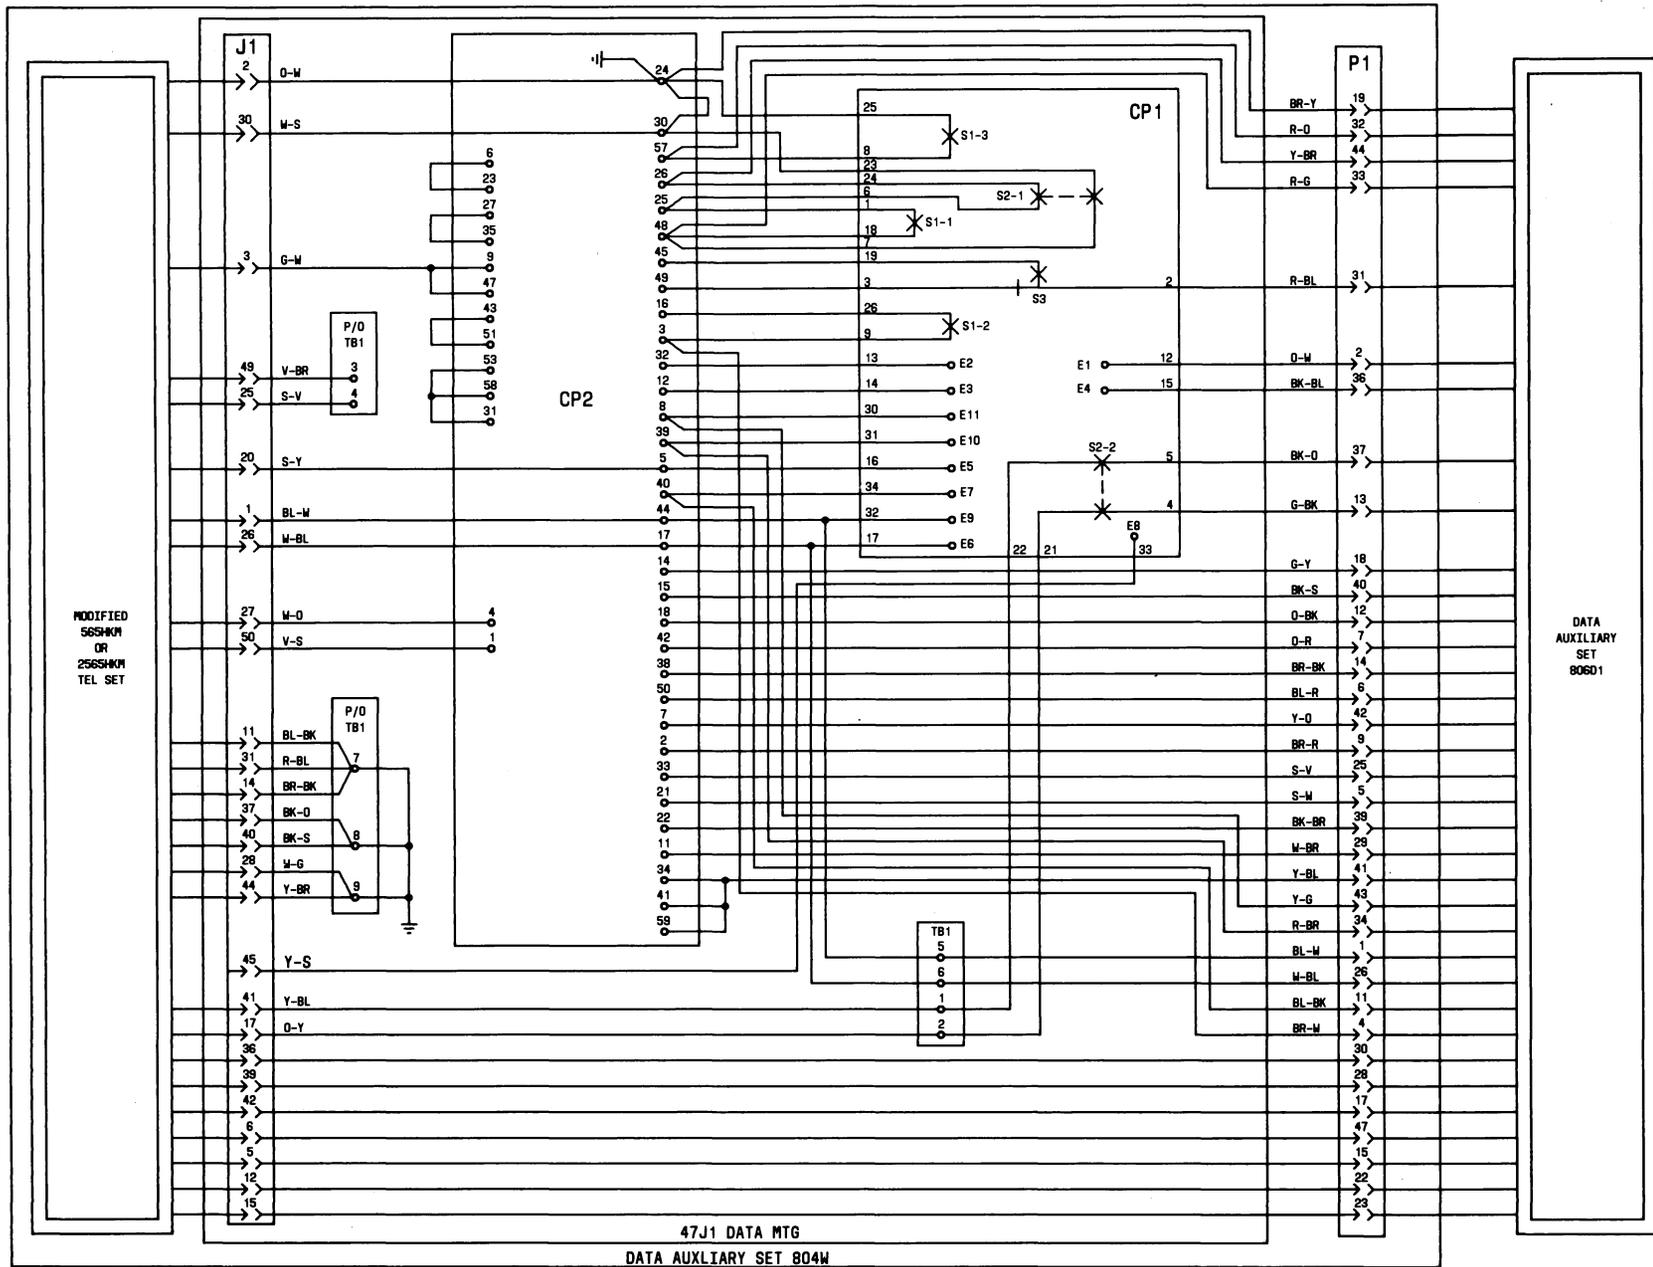

Fig. 1—Application Schematic of 804W DAS
2.001 The 804W-type DAS is comprised of a 47J1 data mounting and a 565HKM or 2565HKM telephone set for either dial or TOUCH-TONE® service use and two B25A cords of appropriate length. The telephone set is configured to provide functional key and display arrangements similar to the 804A-type DAS. See Fig. 1 for an application schematic of the 804W DAS.